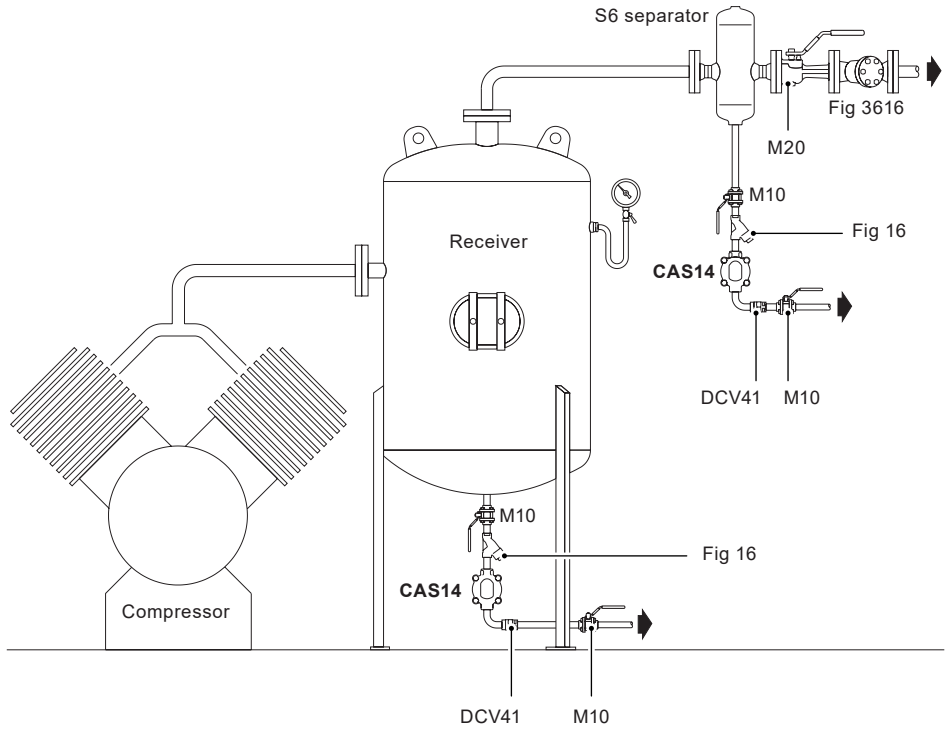

Fig. 3 Typical application
- 3.6** Traps should be fitted below the outlet of the air/gas system with a small drop leg immediately preceding the trap - Typically 150 mm (6") see Figure 3 below.